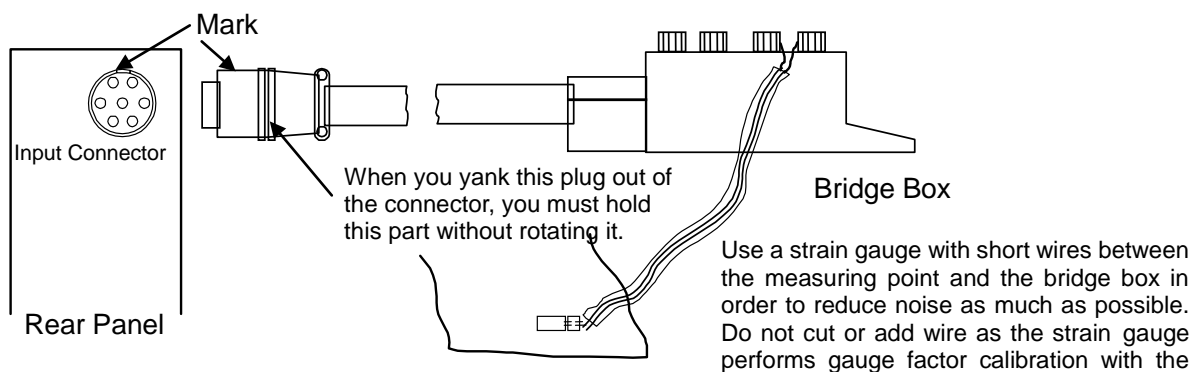

Figure 3-1 Connection with bridge box and so on
3.1.1 Input Cable Connections (See Figure 3-1.)